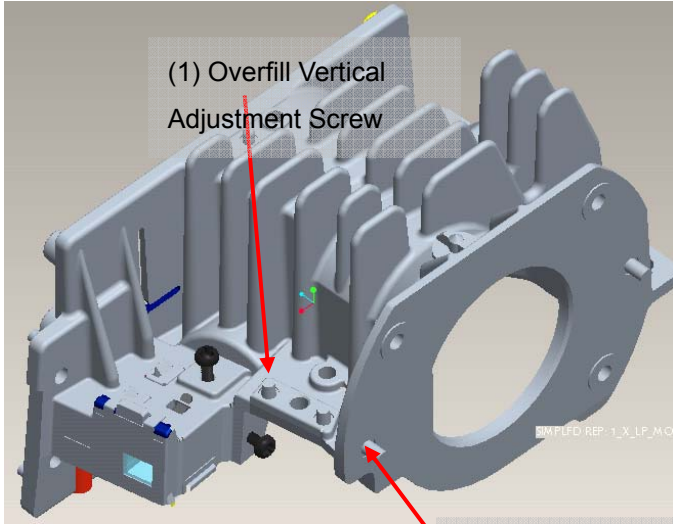

Fig.5-4 (1) Overfill Horizontal
- i. Assembly two Overfill adjustment screw (8F.1A752.8R0) to HSG DMD (Fig. 5-4).